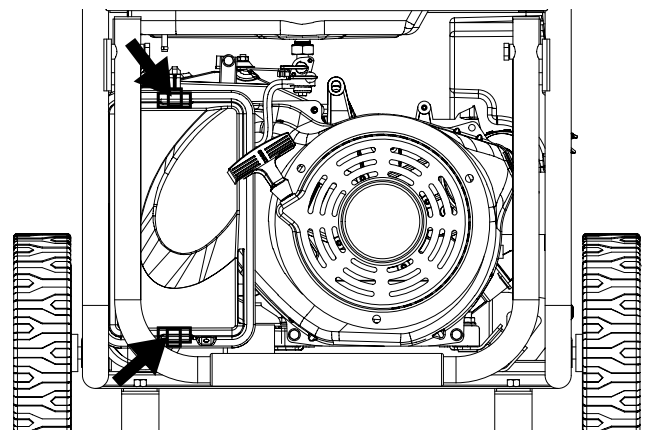

Figure 25 - Clips on air filter
3. Unclip the clips on the top and bottom of the air filter cover (Figure 25).